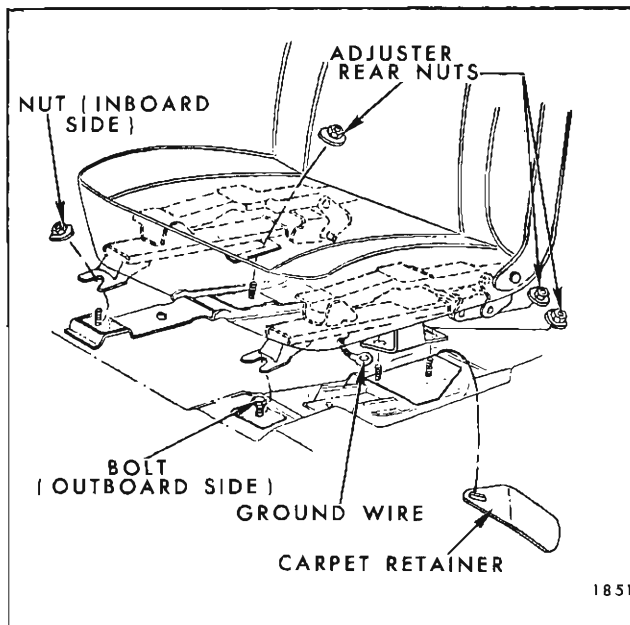

Fig. 2H10—Bucket Seat Attachment
4. Operate seat assembly to rearward position. (Fig. 2H10).